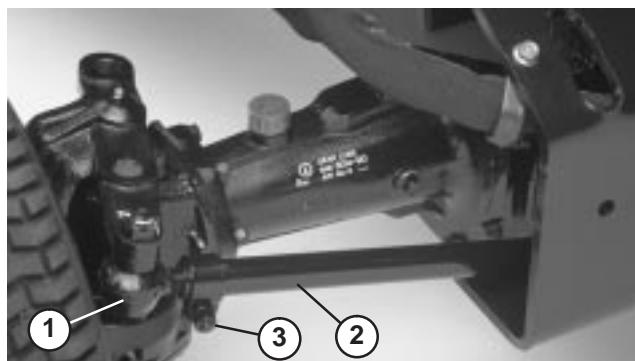

Figure 65
2. Remove cotter pin and nut securing one tie rod ball joint to mounting bracket on axle and disconnect ball joint from axle (Fig. 65).
3. Loosen screw on tie rod clamp (Fig. 65). Rotate ball joint in or out to adjust length of tie rod.